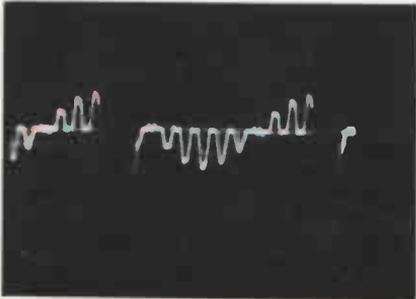

FIG. 5-10. G-Y waveform.
7. Now move the oscilloscope probe to the control grid of the green electron gun and check the $+(G-Y)$ signal. As shown in Fig. 5-10 the first and the seventh bars should pass through zero. Oscilloscope vertical gain was turned up in making Fig. 5-10, and the blanking pulse extends off the screen in this waveform.